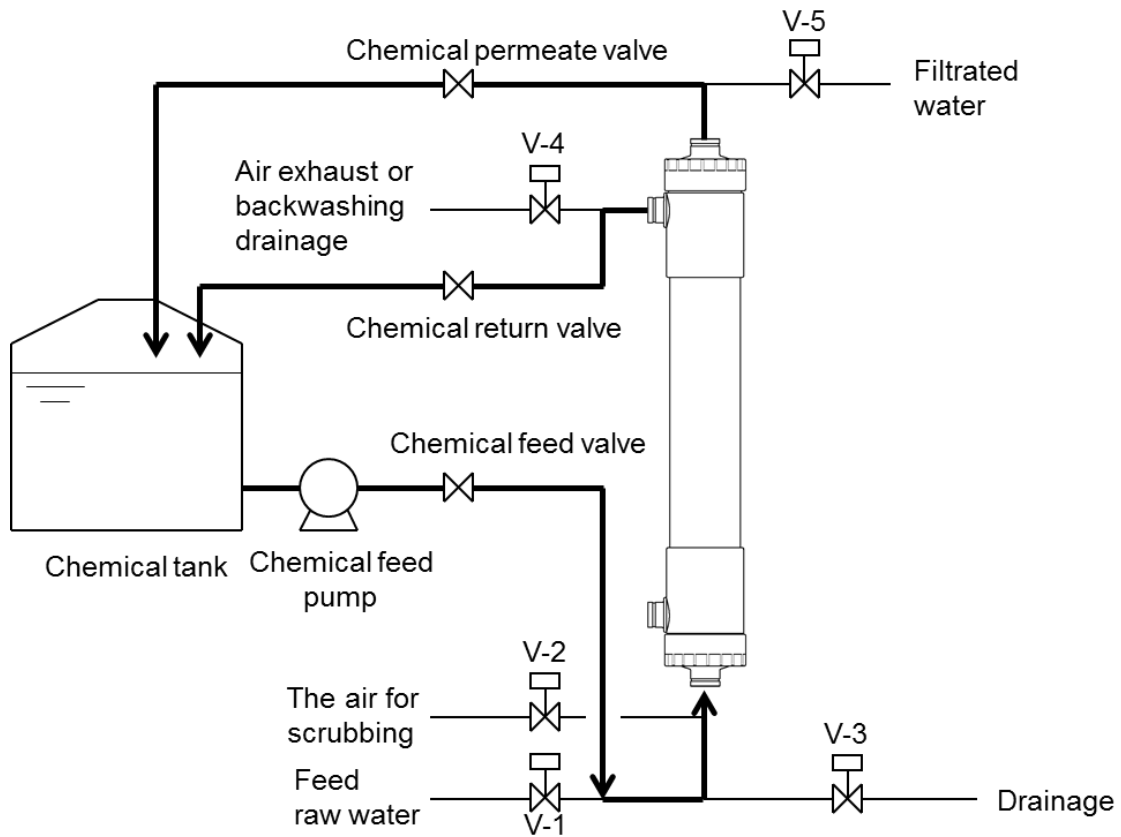

Fig. 8 Flow diagram for chemical cleaning
- (1) The flow diagram for cleaning simultaneously both outer surface and inside of hollow fiber membranes is shown in Fig. 8. The flow diagram can be changed case by case. Please contact us if you need the information in detail.
- (2) Open the chemical return valve and then open the chemical feed valve.
- (3) Run the chemical feed pump to start the circulation of chemical and then open the chemical permeate valve to have the chemical permeate through the